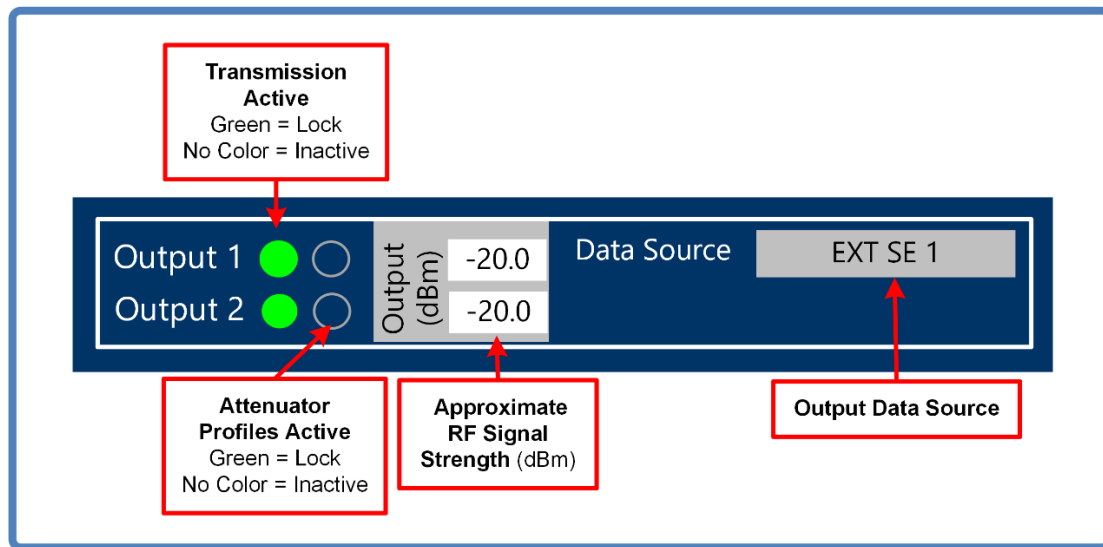

Figure 4-11 Status Window Contents
**Operational Status Window:** In the upper right-hand corner of the active application window is the operational status window. This area contains status related to the RF channel operations within the LS-18 system. The meanings of the LEDs and window contents is shown in Figure 4-11.